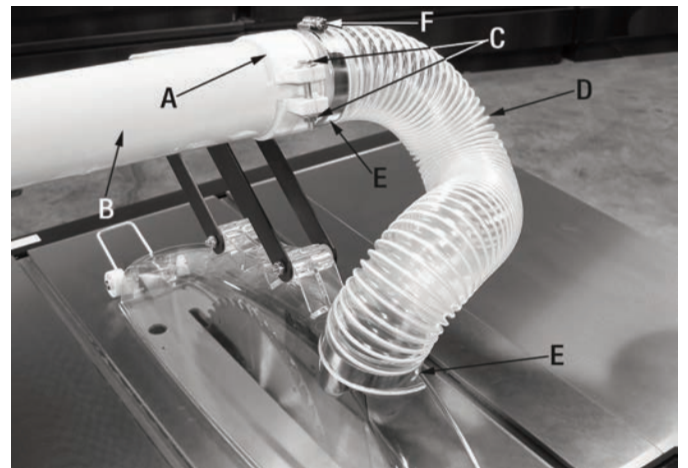

FIGURE 10
- 1) Slide the blade cover assembly mounting bracket (A) Fig.10 over the inner boom (B), slide it to approximately 1" to 1-1/2" away from the edge of the inner boom. Position the blade cover over the blade and then tighten the hex. bolt and hex. nut (C).
- 2) Install the dust collection hose (D) Fig.10 in between the blade cover and the inner boom using the two hose clamps (E). Position the hose clamps over the dust collection hose, then slide the hose over the blade cover and the inner boom, position and secure hose clamps by tightening the hose clamp screw (F) using a screwdriver.